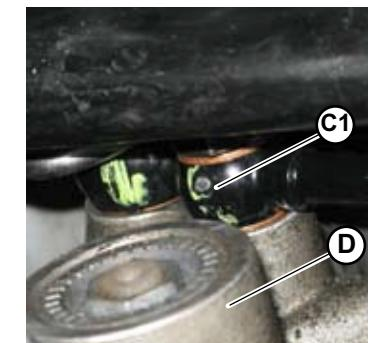

Fig.17
3. Disconnect the **C1** power steering circuit central delivery pipe from the rack (**D**-Fig.17).